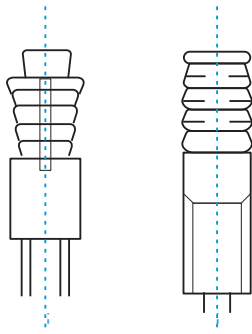

Figure 3.2
- Determine the location on the ceiling of the room or building roof for mounting, and drill four $\Phi 12$ mm X 50-55 mm holes. Then embed and set up the expansion hook anchors (purchased accessory 2) in these holes. See Figure 3.2.